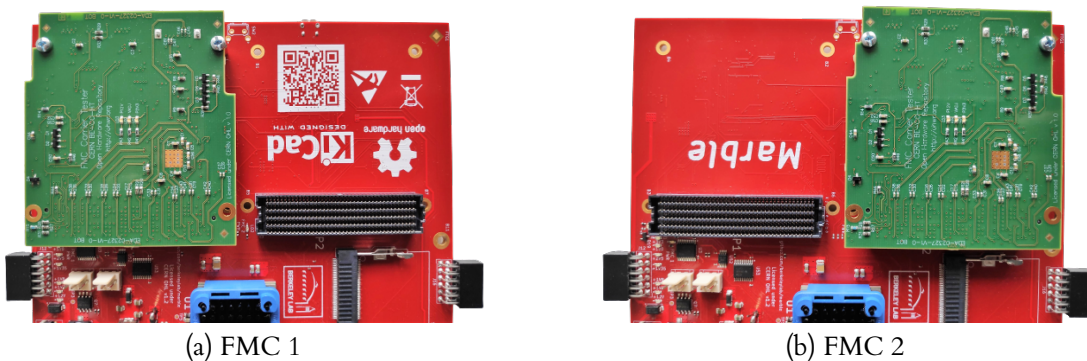

Figure 6: FMC connectors with plugged FMC Tester board.
1. Plug FMC Tester module to one of the FMC connector as it is shown on Figure 6.